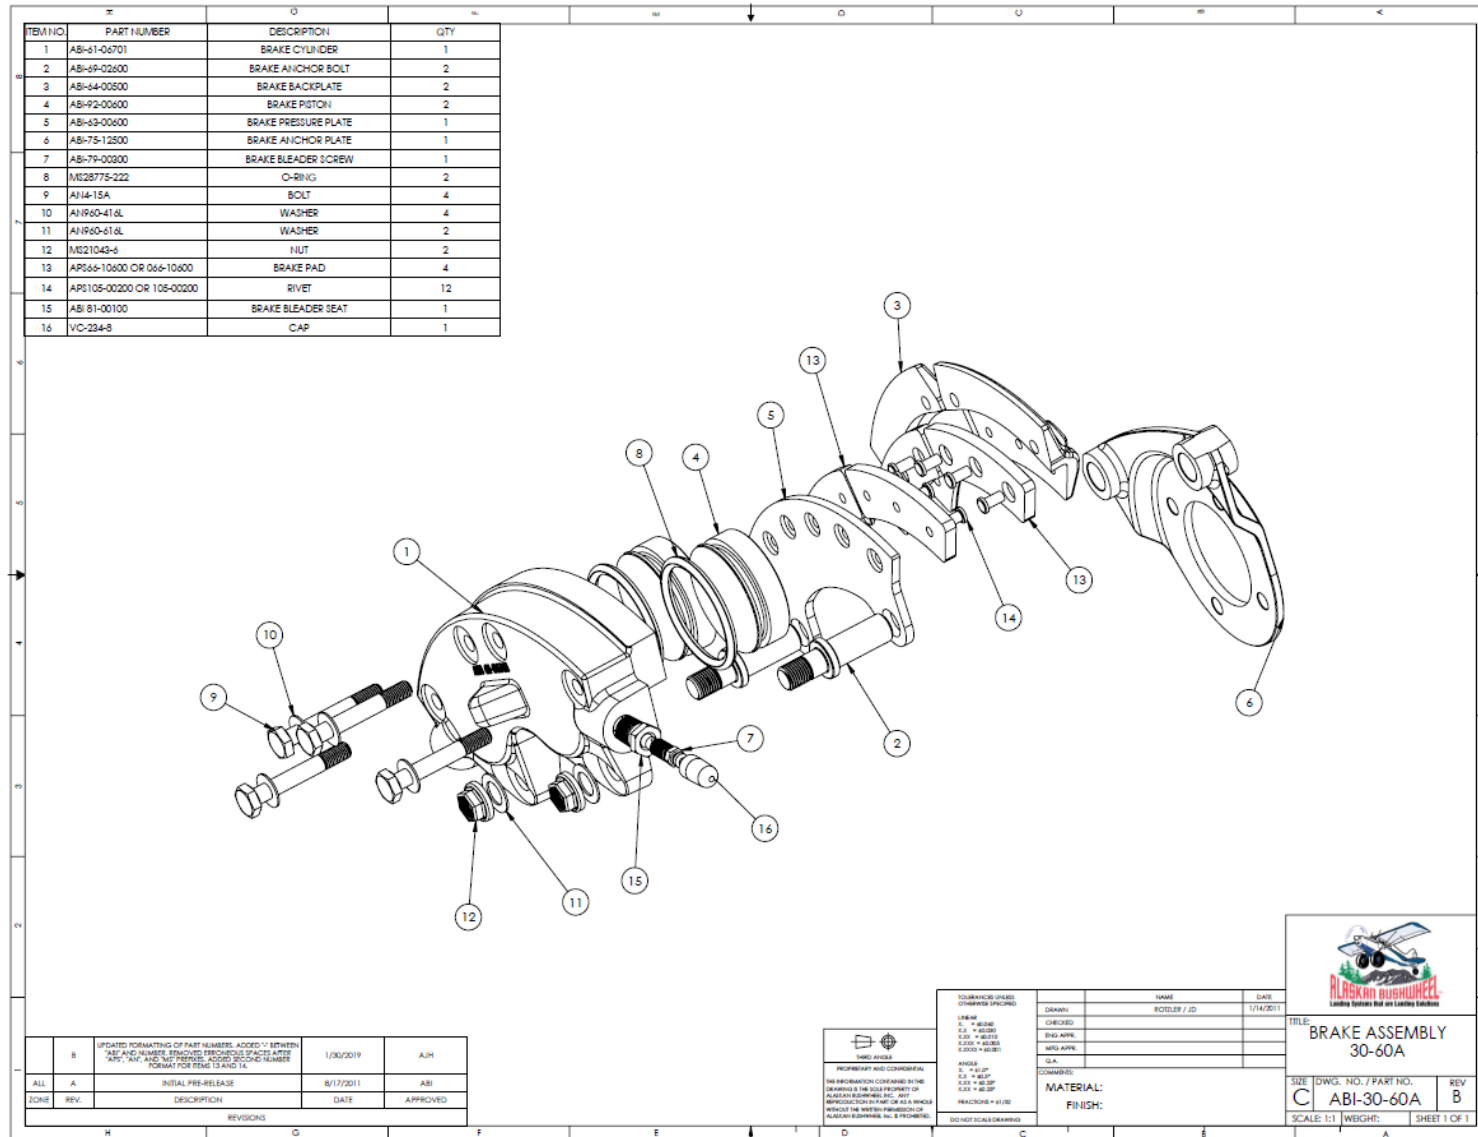

Figure 3: ABI-30-60A Brake Assembly
- 6.2.2 Remove brake backing plates. (See Figure 3: ABI-30-60A Brake Assembly, page 20)